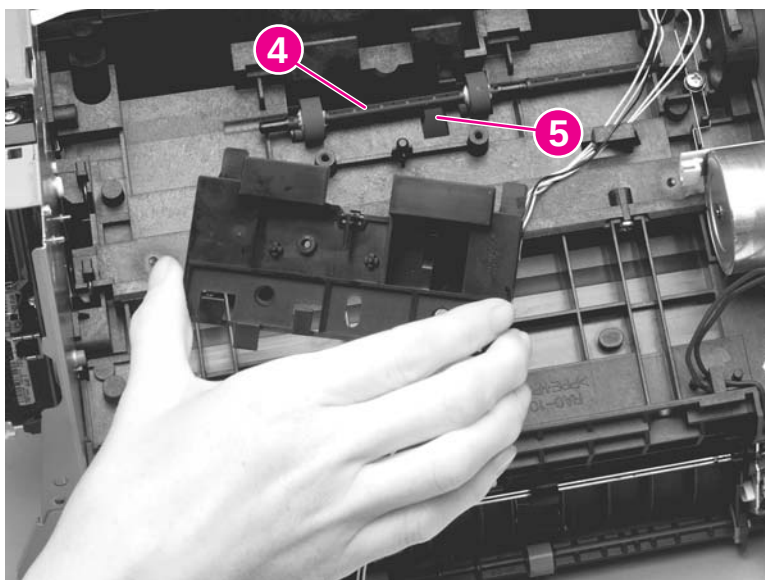

Figure 5-94.
- b. Insert the bottom of the sensor flag into the hole in front of the paper-feed roller shaft (see callout 5 in Figure 5-94. Remove the paper-feed assembly \(2 of 4\)). The top of the sensor flag (callout 7) should move freely.